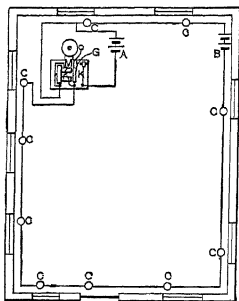

FIG. 148. Closed-circuit burglar alarm.
79. Burglar Alarms. In order that the system may not be put out of order by the cutting of the wires, burglar alarms are generally of the closed-circuit type. A simple scheme of this kind is shown in Fig. 148. The battery *B* causes a current to flow through a circuit in series with the coils on the magnet *M* in the bell. This keeps the arma-